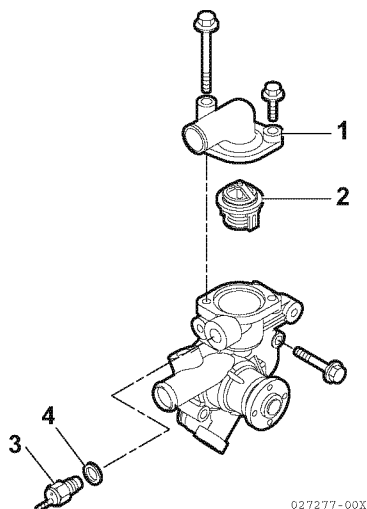

Figure 8-5
7. Remove the thermostat cover (**Figure 8-5, (1)**).
8. Remove the thermostat (**Figure 8-5, (2)**).
9. Remove the temperature switch (**Figure 8-5, (3)**) and gasket (**Figure 8-5, (4)**). Discard the gasket.